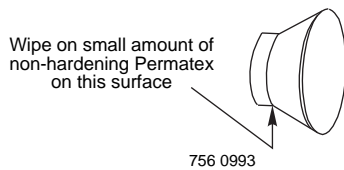

Figure 6
- B. Apply a small amount of non-hardening silicone RTV on surface of insert (see Figure 6).